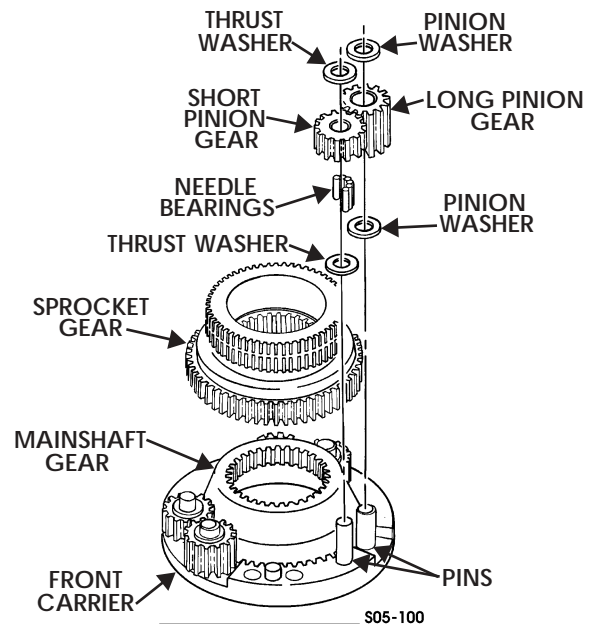

Figure 5-153: Differential Pinions
3. Remove three pinion washers, long pinion gears, pinion washers, thrust washers, short pinion gears, fifty-four needle bearings and three thrust washers from front carrier pins (Figure 5-153).